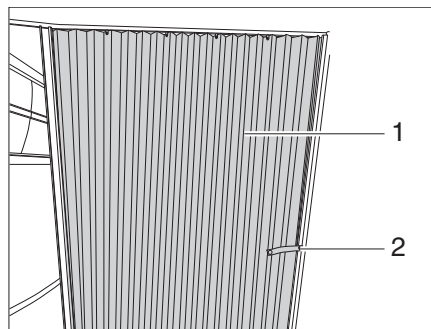

Fig. 78 Folding door
- Release the securing strap (Fig. 78,2).
- Pull the folding door (Fig. 78,1) into the closing position.
- Push the folding door (Fig. 78,1) into the open position.
- Secure the folding door with the securing strap (Fig. 78,2).